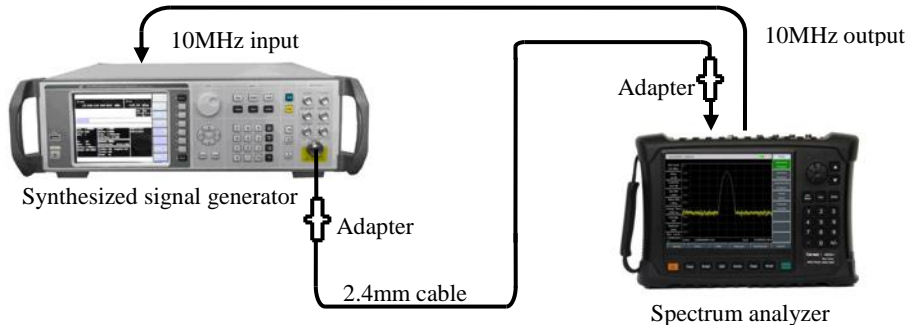

Fig. 12-6 Setting for Resolution Bandwidth Conversion Uncertainty
1) Connect the test equipment as shown in Fig. 12-6. The spectrum analyzer will provide the frequency reference for 1464C synthesized signal generator.